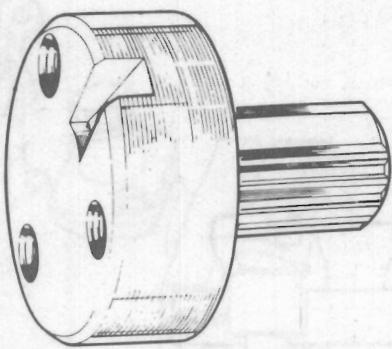

Fig. K.6.
2. Fit adaptor PD67B-1 (see Fig. K.6) to fuel pump gear so the dowel of gear locates in slot of adaptor and shaft of adaptor is towards rear of engine. Secure adaptor to gear using setscrews.